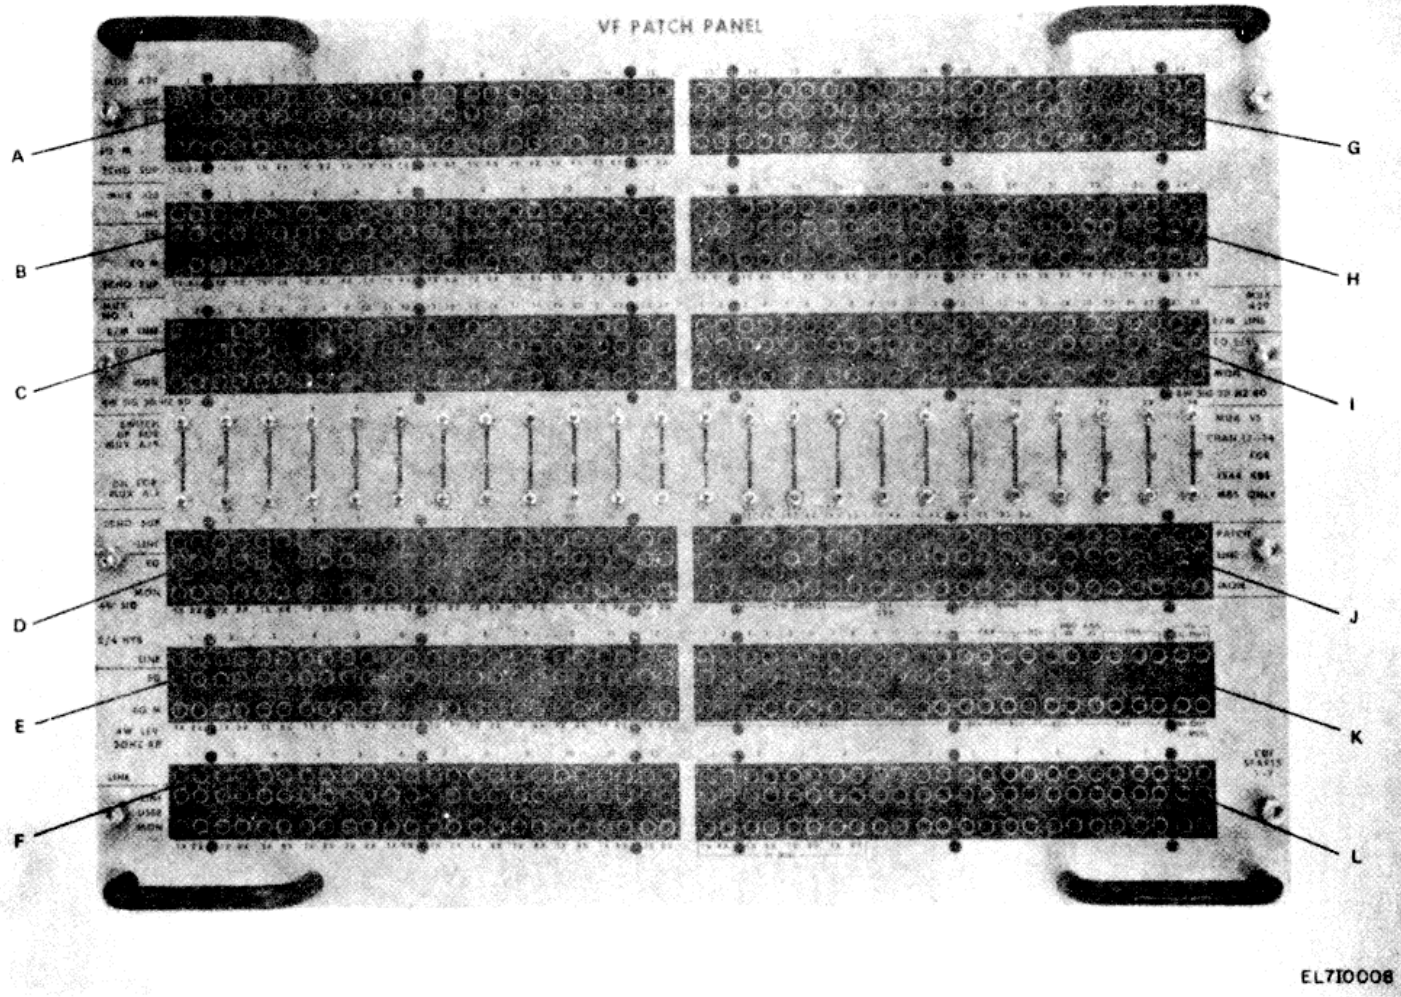

Figure 3-2. VF Patch Panel, Front View.
a. Replacement of Jack Sets on Subpanels A, E G, and L (fig. 3-2).
(1) Remove the communications VF patch panel from its rack as outlined in paragraph 317 above.
(2) Remove the eight nuts protruding through the rear of the rigid support bars which hold the face of the patch panel to the frame.
(3) Pull forward on the face of the patch panel until the mounting screws clear the holes in the rigid support bars on the frame.
(4) Ease the face of the patch panel forward and downward until it is lying flat, face down.
(5) Unscrew the two screws holding the defective jack set (set of three jacks) to the rear of the front panel.
(6) Lift upward on the defective jack set until the tubes clear the sleeves in the front panel and then twist the defective jack set outward from the patch panel.
(7) Tag the wires connected to the defective jack set.
(8) If the wires on the defective jack set are wire wrapped to the connectors, cut the wires as close as possible to the connectors. If the wires are soldered to the connectors, unsolder them.
(9) Prepare the wires for soldering and using good soldering practices, solder the wires to the connectors on the replacement jack set.
(10) Twist the jack set inward and push downward to seat the jack set tubes into the sleeves in the front panel.
(11) Insert and tighten the two mounting screws to secure the jack set to the patch panel.
(12) Lift the front of the patch panel off of its face and mount it on the patch panel frame.
(13) Mount and tighten the eight nuts on the rear of the rigid support bar.
(14) Place the patch panel back into its rack as outlined in paragraph 3-19 below.
b. Replacement of Jacks and Jack Sets on Subpanels B, C, D, E, H, I, J, and K (fig. 3-2)